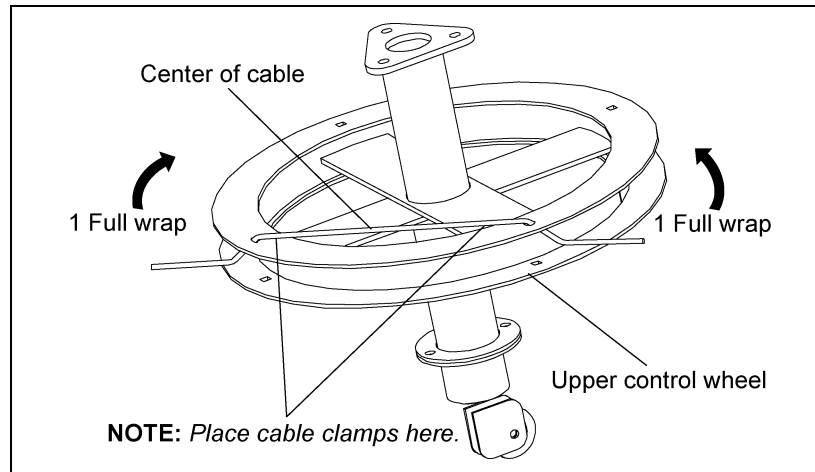

Figure 5I
When installing, mark the center of the cable. Start at the upper control wheel and feed the cable into the holes in the side of the control wheel (as shown in Figure 5I) until the center of the cable is between the two (2) holes in the side. Wrap each end of the cable one full wrap around wheel.